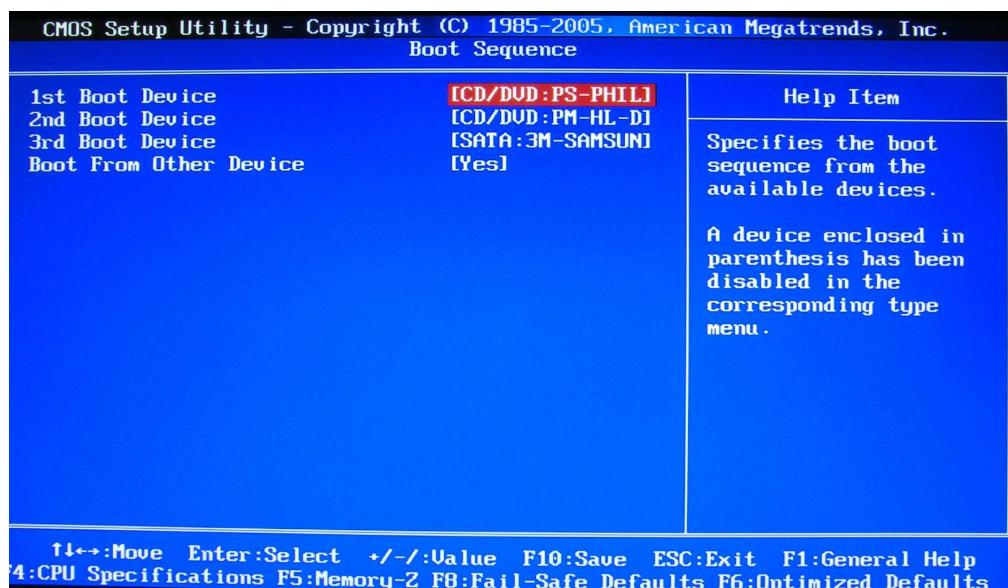

Figure 7 .6: Boot Sequence in BIOS
- iii) Once you are in the BIOS, find the menu with the boot sequence and set it to the desired order. It should look like Figure 7 .6.